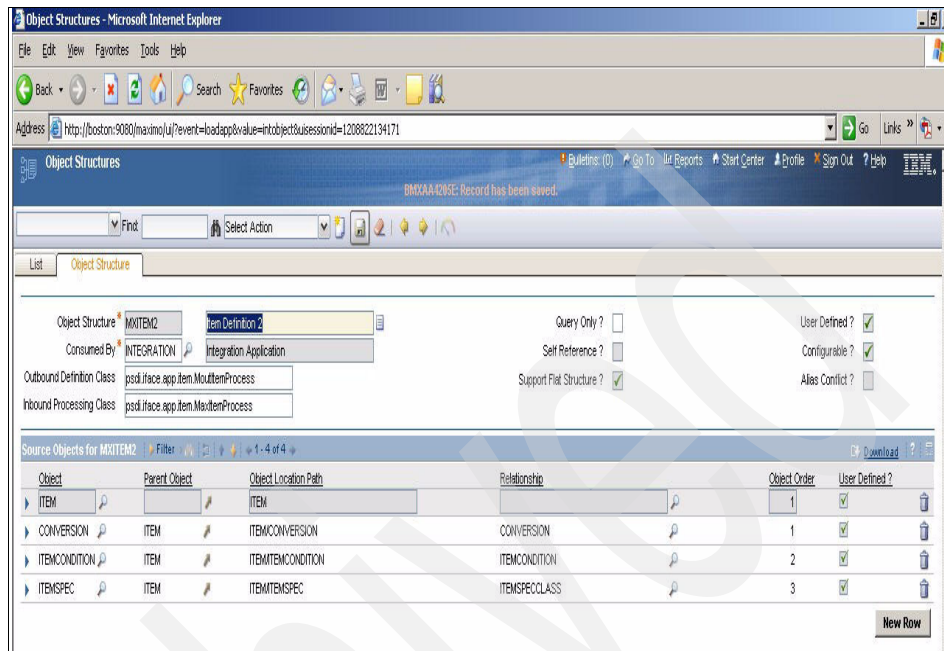

Figure 8-57 Object Structures
3. Search for the MXITEM integration object (see Figure 8-57).